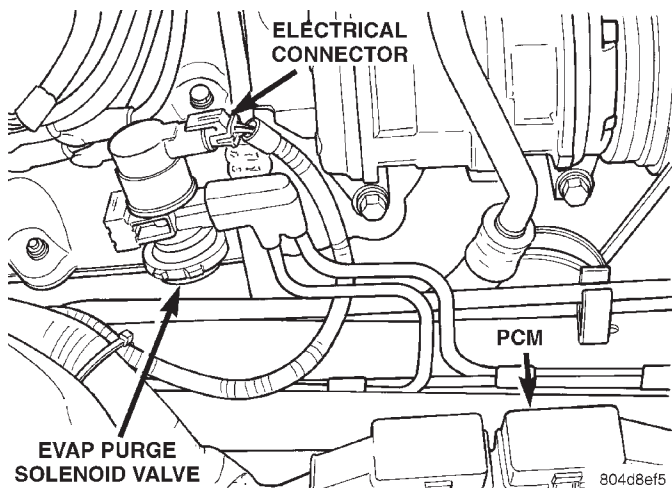

Fig. 9 EVAP Purge Solenoid Valve
- (1) Slide valve off of bracket.
- (2) Disconnect the electrical connector (Fig. 9)
- (3) Disconnect the vacuum hoses from the valve.